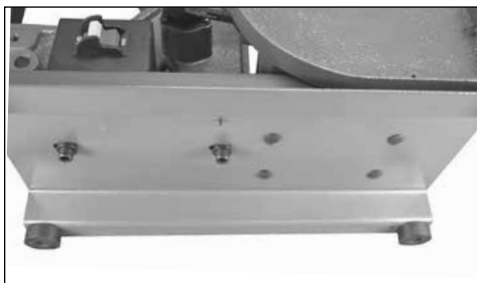

Figure 2
3. Line up the two holes in the frame with the two holes in the base. From the bottom of the base, insert the two hex head Screws, Washers and Lock Washers (#7, 2, 3) through the holes to join them together. You need to tilt the base up to do this. Hand tighten the two screws as shown above in figure 2.